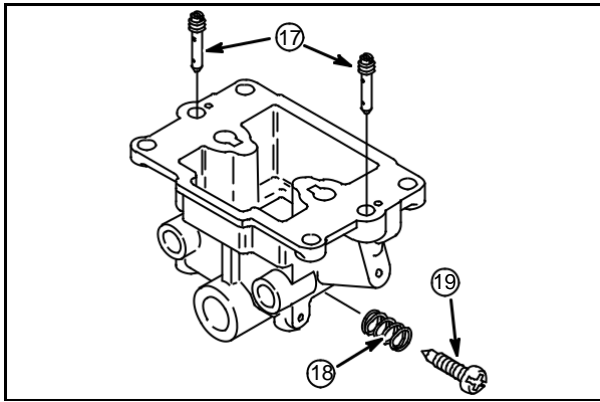

Fig. 72
Install pilot jets (17), **Fig. 72**.